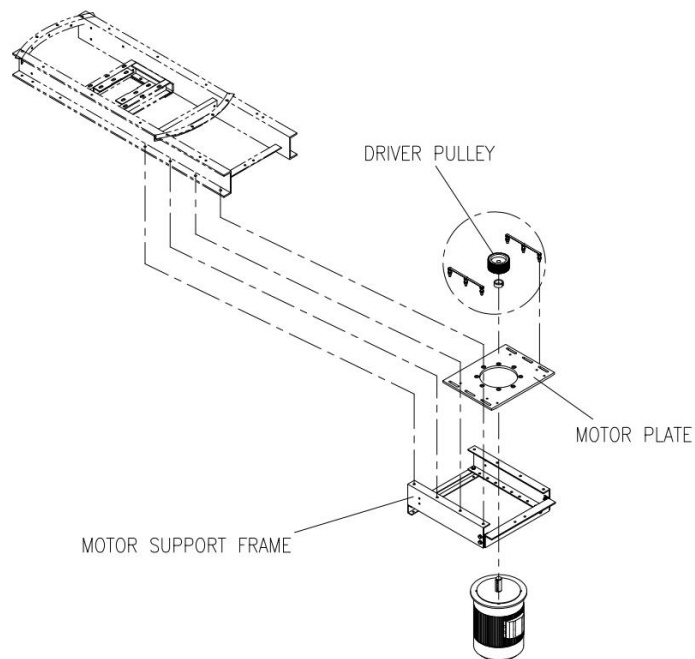

Figure 3-15 Motor Installation on Mechanism Support
- G. Equip the motor with its motor support plate, the driver pulley and the motor support frame. (See Figure 3-15)